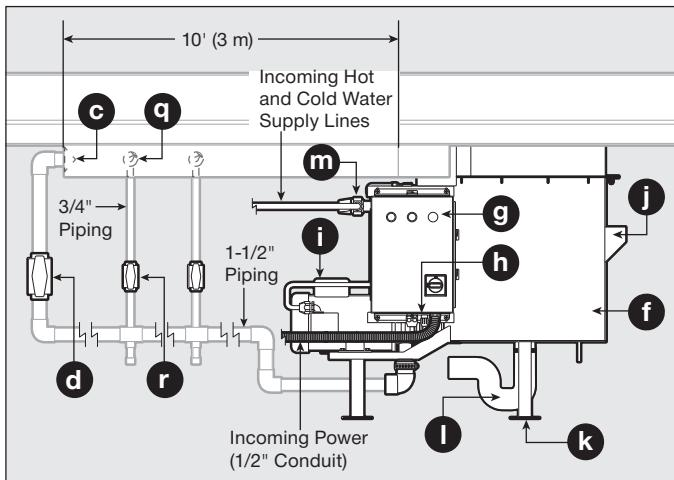
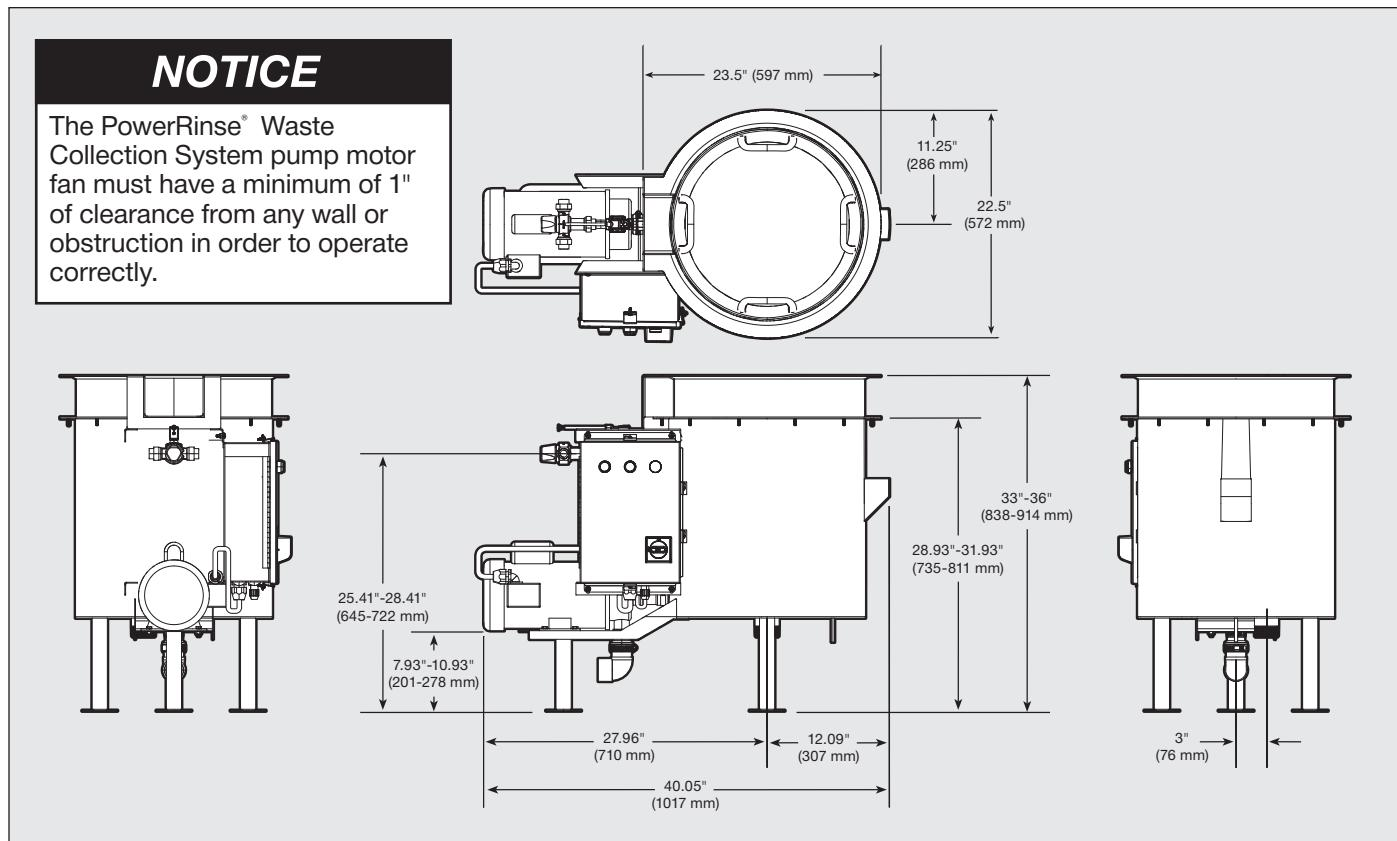

Figure 3. Typical Installation
Figure 5. PowerRinse® Waste Collection System Dimensions
The PowerRinse Waste Collection System is CUL® US Listed when installed in conjunction with InSinkErator pumps and controls, and per the installation instructions in this Installation, Care, and Use Manual (see Figures 3 and 4 for typical installations).
- e. Waste Collector Base Assembly (see Figure 3)
Figures 3 and 4 illustrate the typical installation of the PowerRinse® Waste Collection System. For a complete list of system components refer to the System Components list located to the left of Figure 3. See Figure 5 on next page for system dimensions.